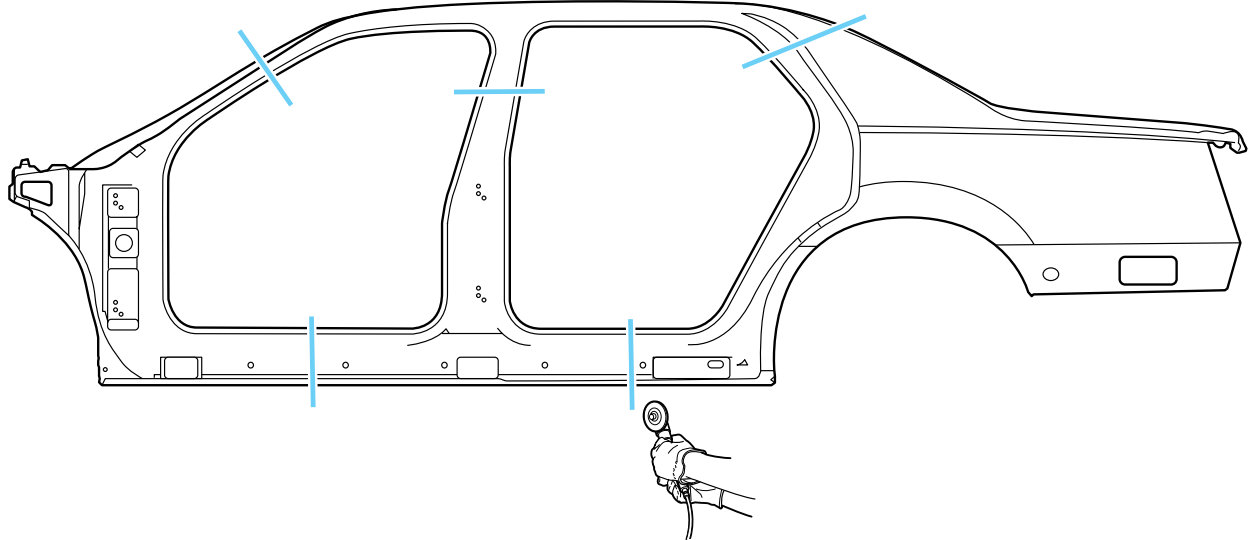

Fig. 1-1 — 2000 DeVille Outer Frame Sectioning Locations
The full body side outer panel comes as a one-piece assembly and can be replaced at factory seams after removal of glass and roof. Any one of these procedures can be performed separately, or in any combination, dependent upon the extent of damage to the vehicle. Sectioning must take place in specified areas only (Fig. 1-1). Remove front glass when sectioning front pillar and rear glass for rear pillar repair.
3. Determine sectioning locations. Section in approved areas only (see Fig. 1-1).